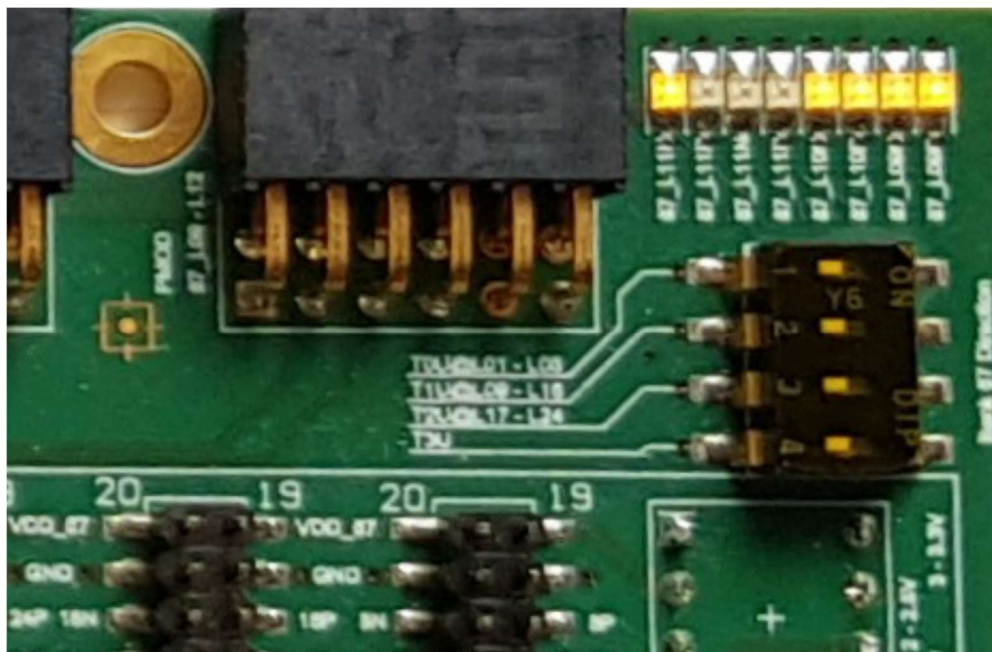

Figure 2.3: Blinking LEDs on the upper right corner of base board
1. The hardware LED binary counter shows each LED as one bit of the counter (figure 2.3). Every 10 s the CPU switch the LED output to software controlled output for 1 s. It is showed by a fast blinking of all LEDs with switch on and off by CPU.